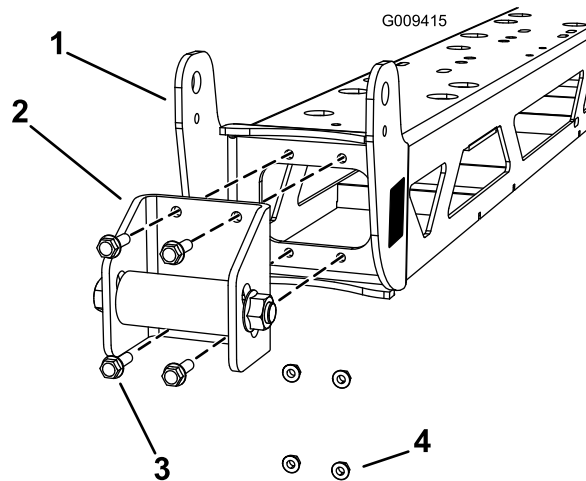

Figure 1
2. Remove the 4 bolts (5/16 x 1 inch) and nuts (5/16 inch) securing the stops to the center boom frame as shown in (Figure 1). Remove the hardstop assemblies on both sides of the center boom. Retain all parts for later use.